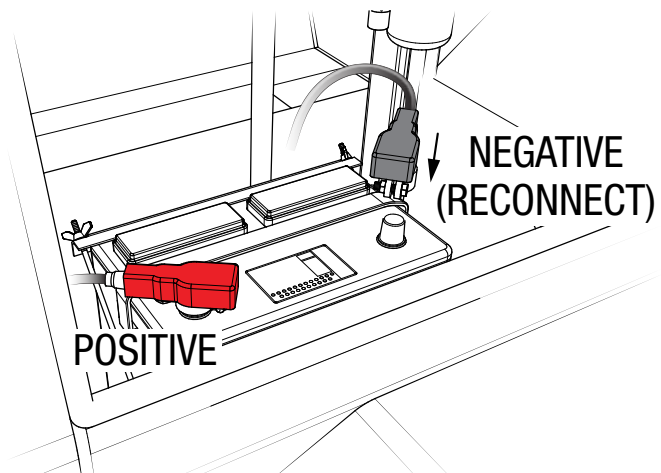

Figure 30. Battery Reconnection
1. Reconnect the negative (**BLACK**) battery cable to the negative terminal on the battery and close the battery-side door (Figure 30).